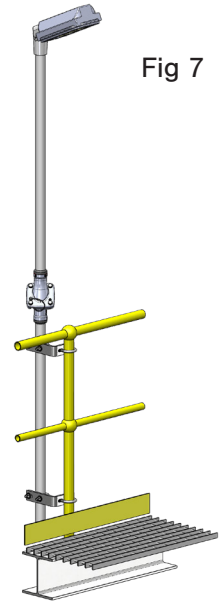

Fig 7
- Tighten the bolts evenly and alternately whilst ensuring the pole top is straight by manoeuvring vertically. (Fig 7)